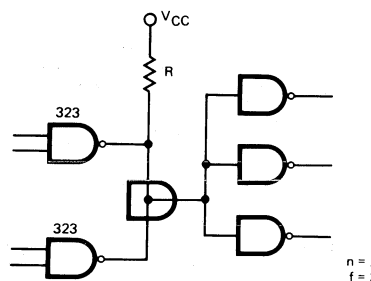

Fig. 8. Calculation of maximum pullup resistor value.
when n is the number of OR'd open collector outputs and f the number of unit loads driven. The example in Figure 8 meets the spec with a maximum resistor size of 12.5K.
Equations (1) and (2) apply to both 12V and 15V devices. But continuing the example in Figure 8, we get a minimum resistor value of: